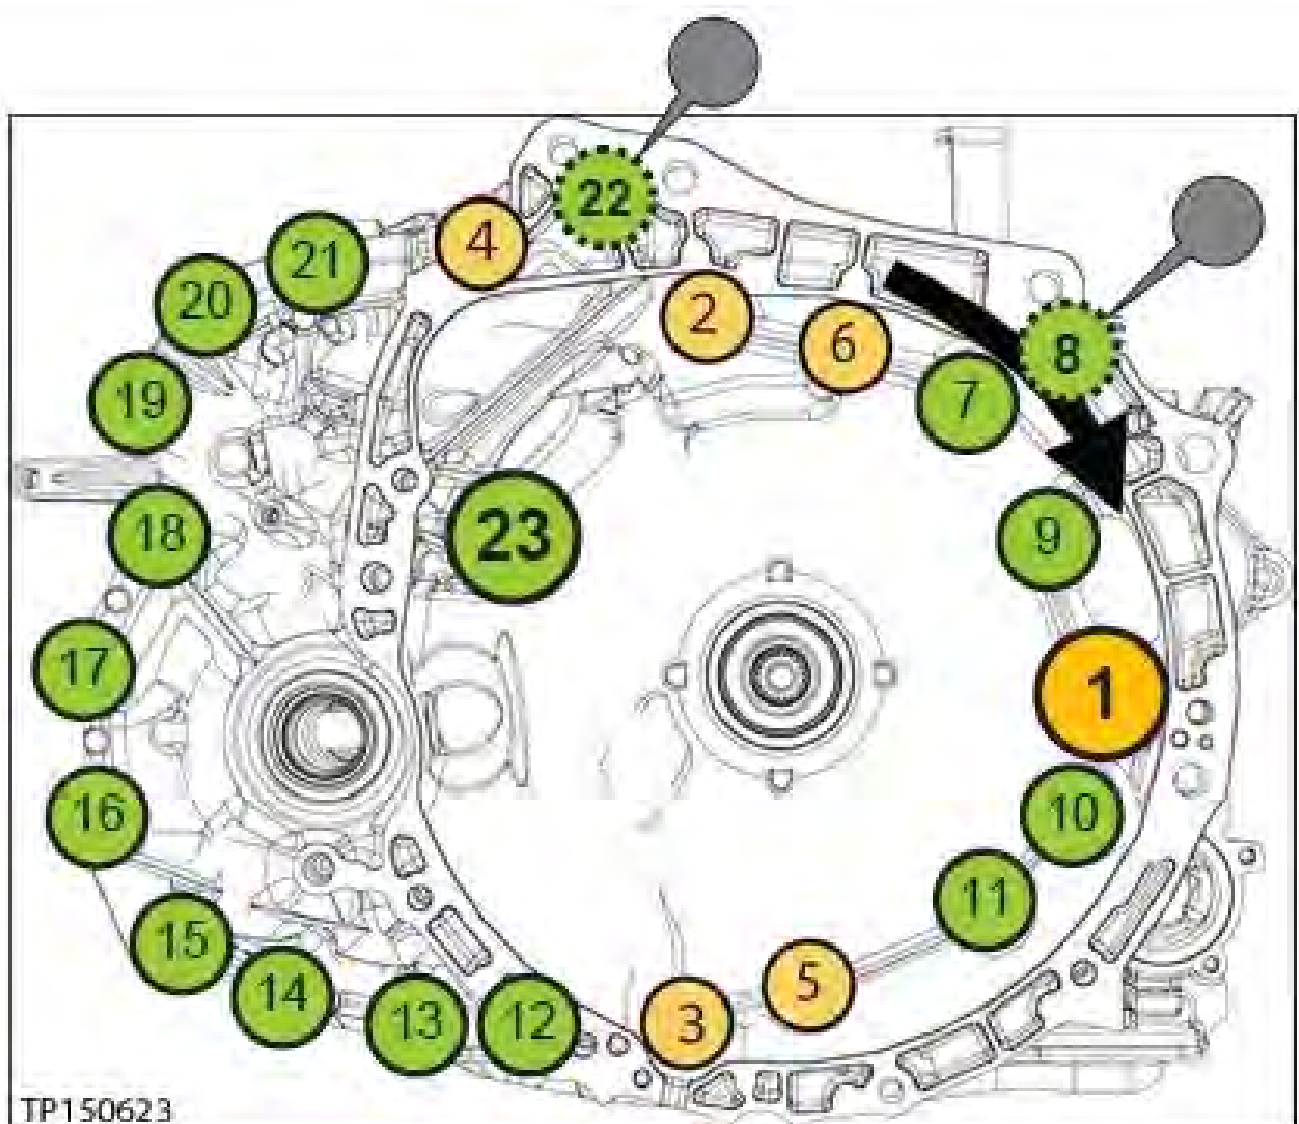

Figure 160
117. Install the converter housing onto the CVT case (see Figure 160 for torque sequence):
- a. Torque the first six (6) bolts with symbol  in numbered sequence (see below).
- Make sure to torque the bolts in the sequence shown in (Figure 160), below.